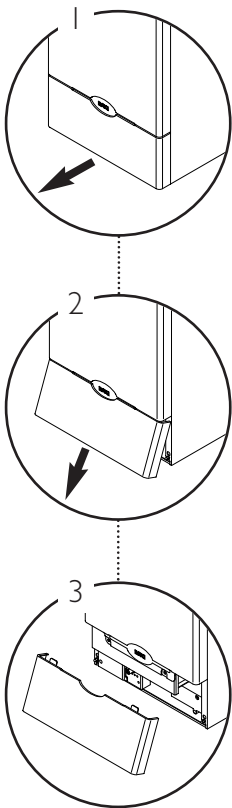

Fig. 97
5. Remove the outer case lower door panel by following the sequence of diagrams (Fig. 97).